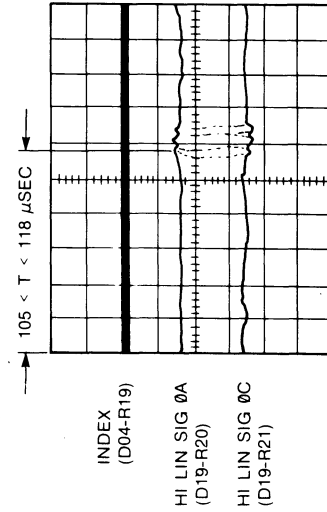

FIGURE 4-13. CIRCUMFERENTIAL ALIGNMENT TIMING
2. The Sync Byte may be recognized by the first of several larger amplitude signals following INDEX when the scope is connected to HI LIN SIG 0A. See Figure 4-13. If the scope is set so INDEX is displayed on the A trace and HI LIN SIG 0A on the B trace, and sweep mode set for Alternate with sync set for Internal Channel A, this timing may be measured at 20  $\mu$ sec/cm using the time delay control for readout.